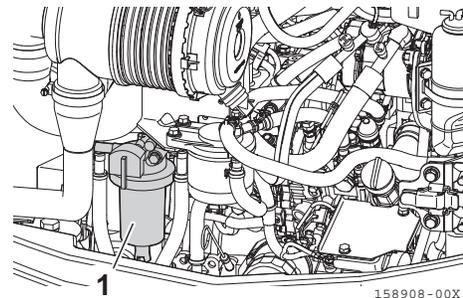

Fig. 8-44
1. Open the rear hood. Drain the fuel from the water separator (**Fig. 8-44, 1**).